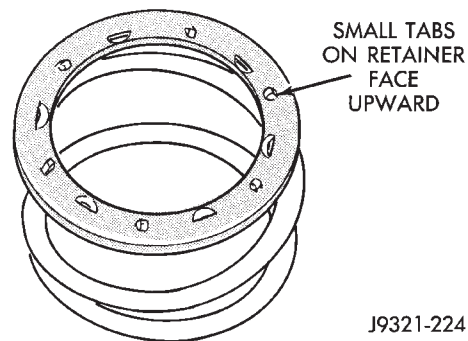

Fig. 153 Correct Spring Retainer Installed Position
(6) Position spring retainer on top of piston spring (Fig. 153). **Make sure retainer is properly installed. Small raised tabs should be facing upward. Semicircular lugs on underside of retainer are for positioning retainer in spring.**